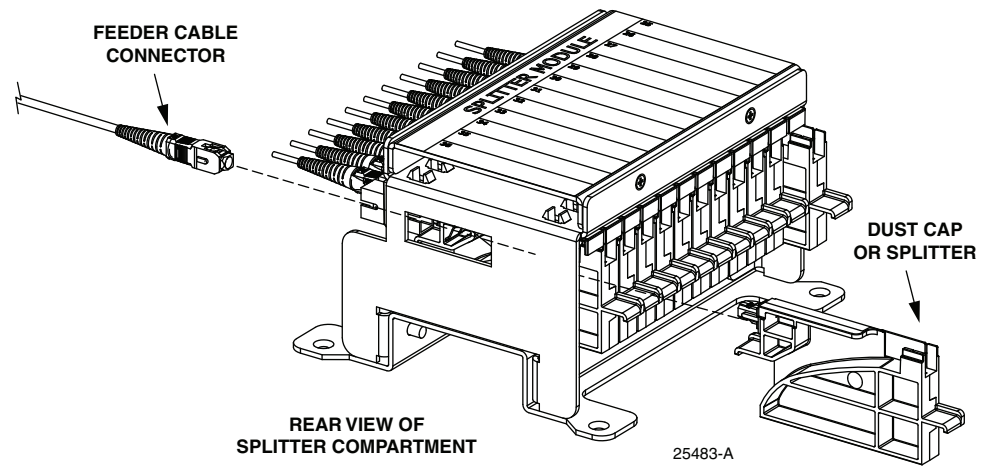

Figure 22. Removing the Feeder Cable Connector
3. Remove the feeder cable connector from the rear side of the broken adapter assembly as shown in Figure 22 and install a dust cap on the connector.